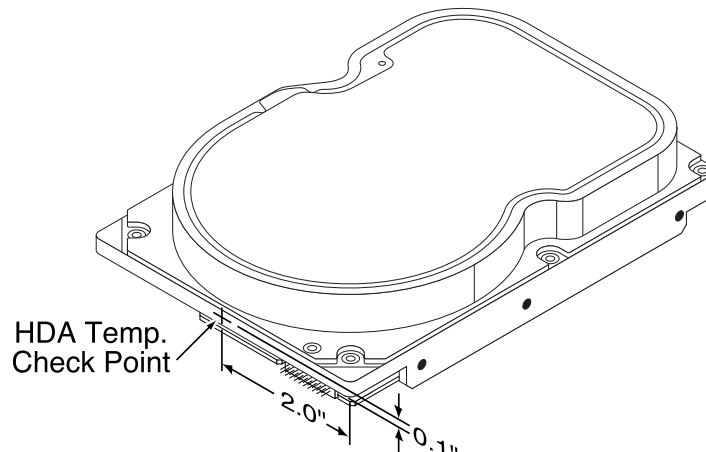

Figure 10. Location of HDA Temperature Check Point
- [3] Measure HDA temp at point labeled "HDA Temp. Check Point" on Figure 10.